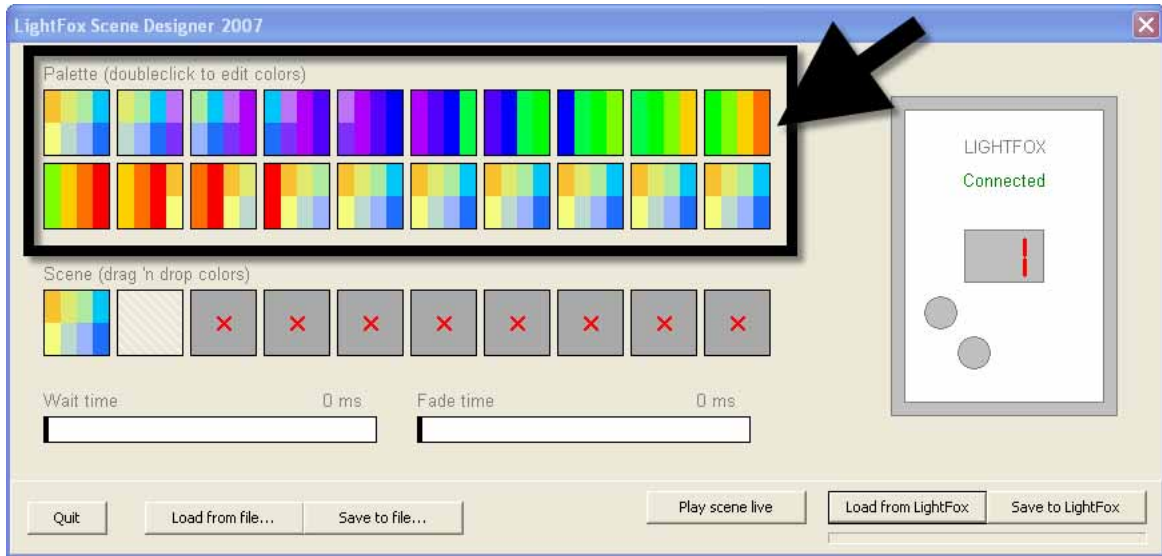

Figure 12: Programming a program
- When you have obtained the desired color, press the **Done** button to confirm your choice and return to the main Design Fox window. The palette box that you edited now displays the new color you selected. If you selected the same color for all groups of luminaires, the box will be one solid color. If you selected different colors for different groups, the box will show those colors in segments as in Figure 12 on page 17.
3. See Figure 12. The 20 palette squares (arrowed) at the top of the main Design Fox window show the 20 palettes stored in the Light Fox's memory.